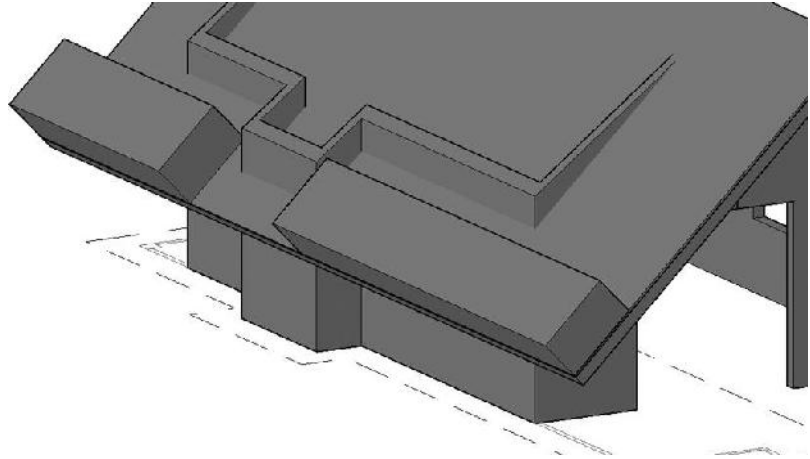

FIGURE 16.83: The boxes to be used to subtract the roof
6. Give the box some height, and then repeat the process on the opposite side of the pop-out, as shown in Figure 16.83.